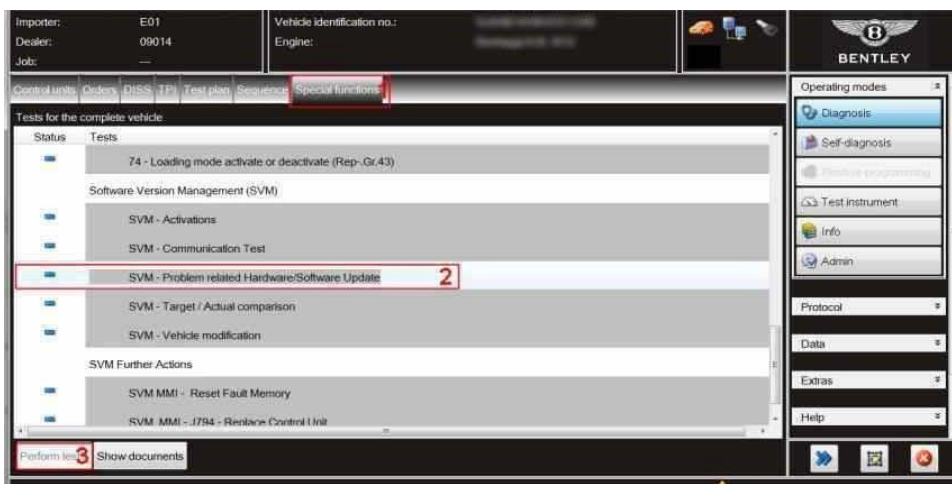

Figure 1
- 3) Referring to Figure 1 - Select Special functions (1), Select SVM – Problem related Hardware/Software Update (2), Select Perform test (3)